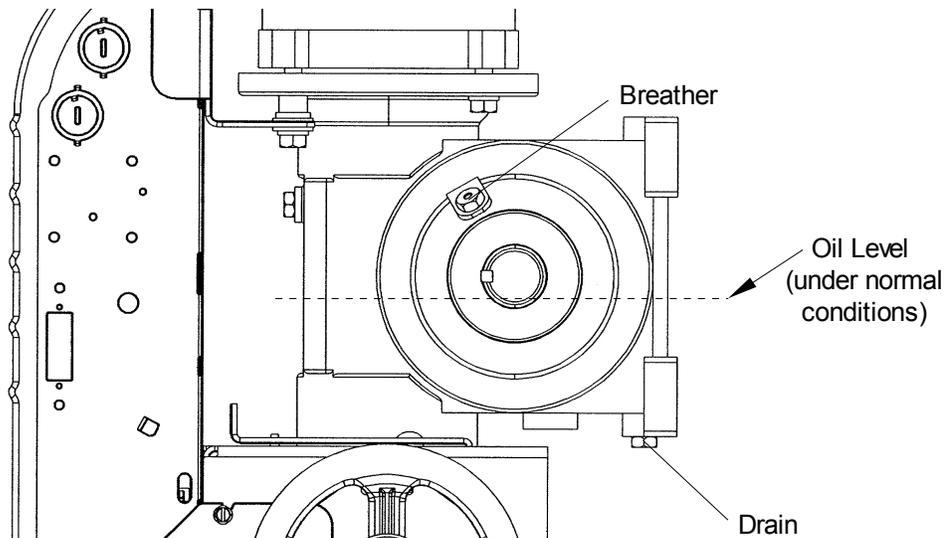

Figure 41 - Gear Reducer Breather
1. Unfasten and remove the breather, refer to Figure 41.